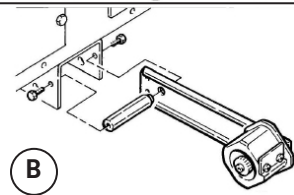
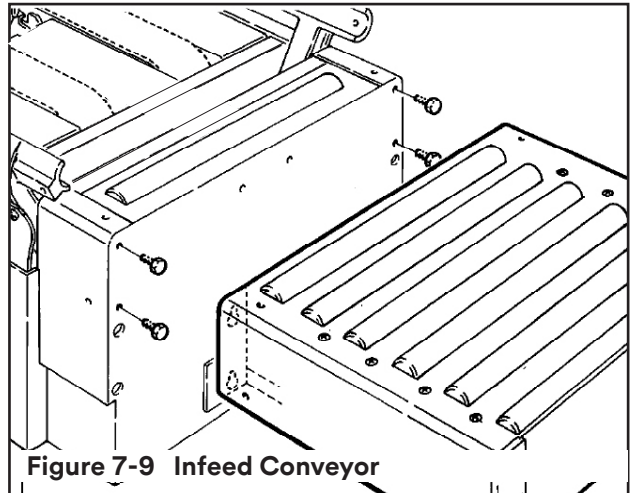

Figure 7-9 Infeed Conveyor
Figure 7-10 Cover Plates
2. Verify that package contains two right angled cover plates, twelve (12) M8 × 15 hex head screws, and eight (8) M8 flat washers.
3. To assemble the infeed conveyor, refer to Figure 7-9 and locate four (4) bolt holes on the infeed end of the case sealer frame.
5. Attach the infeed conveyor over the screws using the inverted keyholes in the end of the conveyor. Tighten all four (4) screws with a 13mm wrench.
6. Refer to Figure 7-10. Set the cover plates over the joint between the conveyor and the frame on each side and secure them with four (4) M8 × 15 screws and M8 washers.